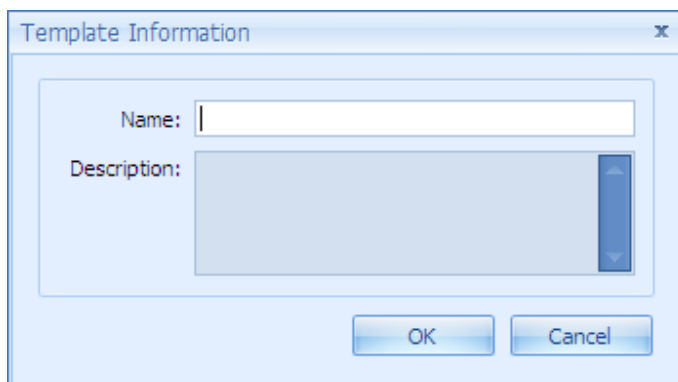

Figure 7.13 Template Name and Description box
- ⇒ The Template Name box appears (Figure 7.13).